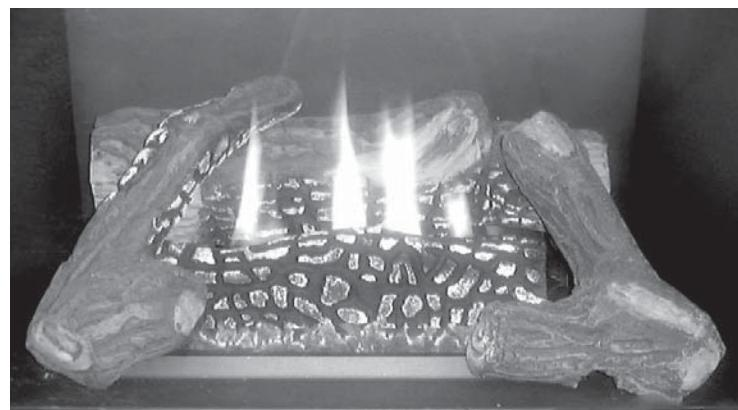

Figure 10 - Burner Flame Appearance Models SSDV-3530 & SSDV-4035 Series
3. Allow the burner to operate for at least 15 minutes while observing the flame continuously to ensure that the proper flame appearance has been achieved (see **Figure 10**). If the following conditions are present, adjust accordingly.